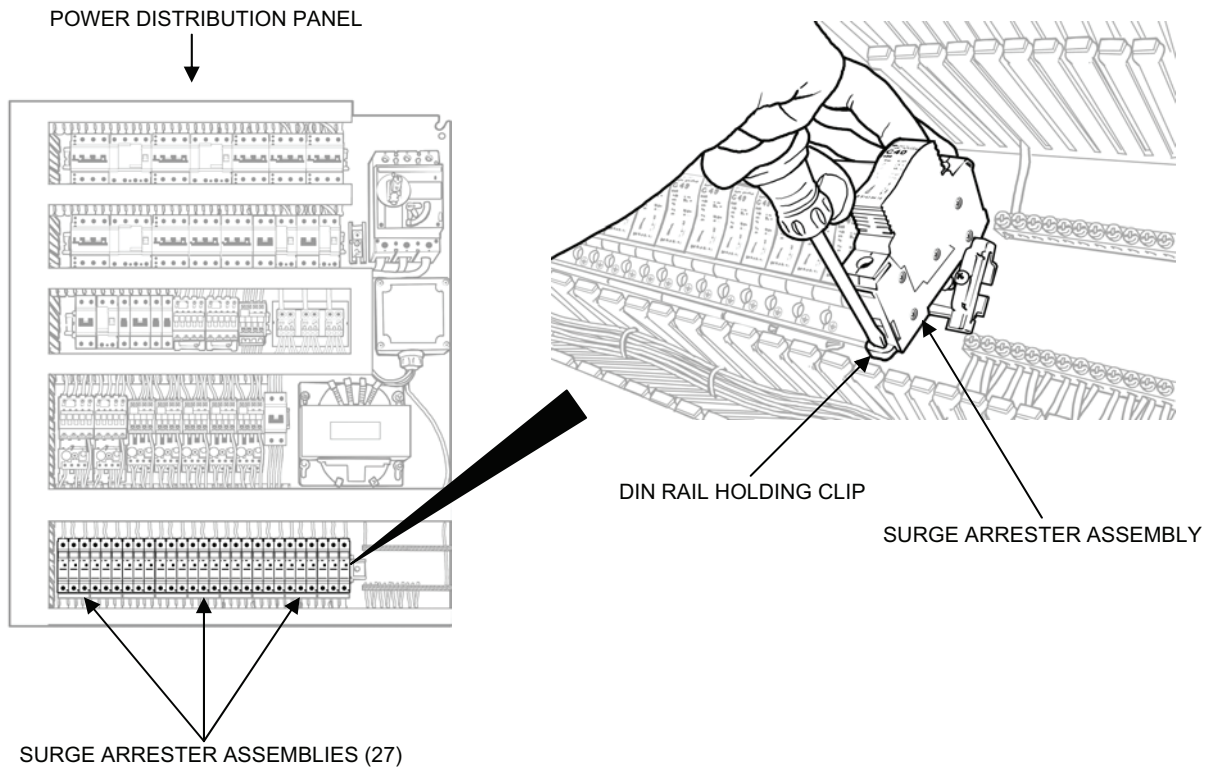

Figure 7. Surge Arrester Assembly Replacement.
1. Remove the surge arrester assembly as follows (see Figure 7):